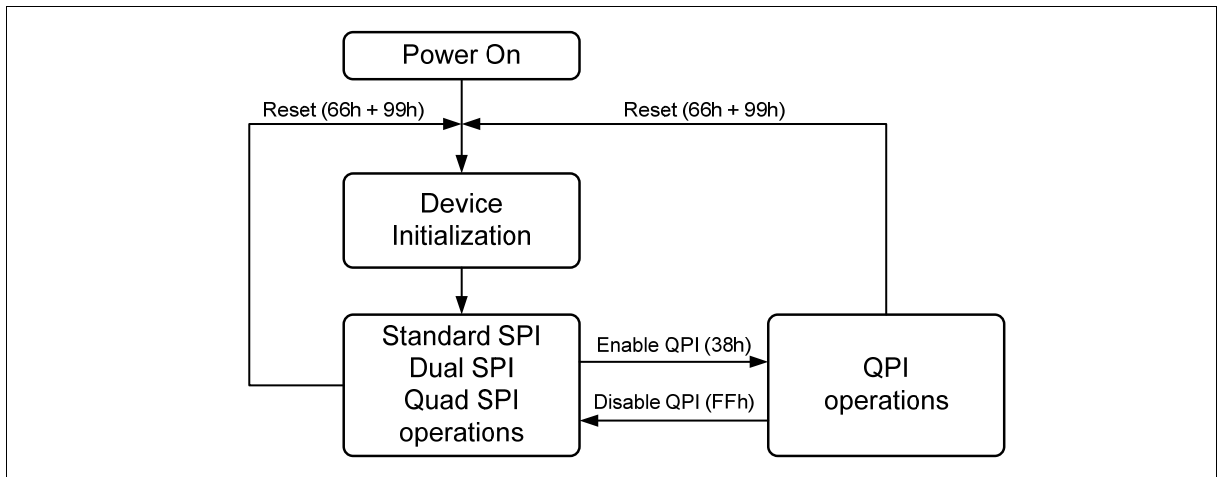

Figure 2 FM25Q16 Serial Flash Memory Operation Diagram
The FM25Q16 supports Quad Peripheral Interface (QPI) operations only when the device is switched from Standard/Dual/Quad SPI mode to QPI mode using the “Enable QPI (38h)” instruction. The typical SPI protocol requires that the byte-long instruction code being shifted into the device only via DI pin in eight serial clocks. The QPI mode utilizes all four DQ pins to input the instruction code, thus only two serial clocks are required. This can significantly reduce the SPI instruction overhead and improve system performance in an XIP environment. Standard/Dual/Quad SPI mode and QPI mode are exclusive. Only one mode can be active at any given time. “Enable QPI (38h)” and “Disable QPI (FFh)” instructions are used to switch between these two modes. Upon power-up or after a software reset using “Reset (99h)” instruction, the default state of the device is Standard/Dual/Quad SPI mode. To enable QPI mode, the non-volatile Quad Enable bit (QE) in Status Register-2 is required to be set. When using QPI instructions, the DI and DO pins become bidirectional  $DQ_0$  and  $DQ_1$ , and the WP# and HOLD# pins become  $DQ_2$  and  $DQ_3$  respectively. See Figure 2 for the device operation modes.